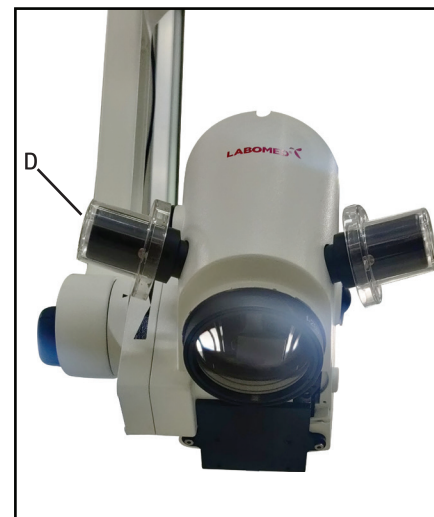

Fig. 22
Z axis coupling allows fine moterized focusing of the area of interest within a travel range of 40mm. two foot paddles are provided on the foot control to facilitate up and down movement. refer (X) fig 22